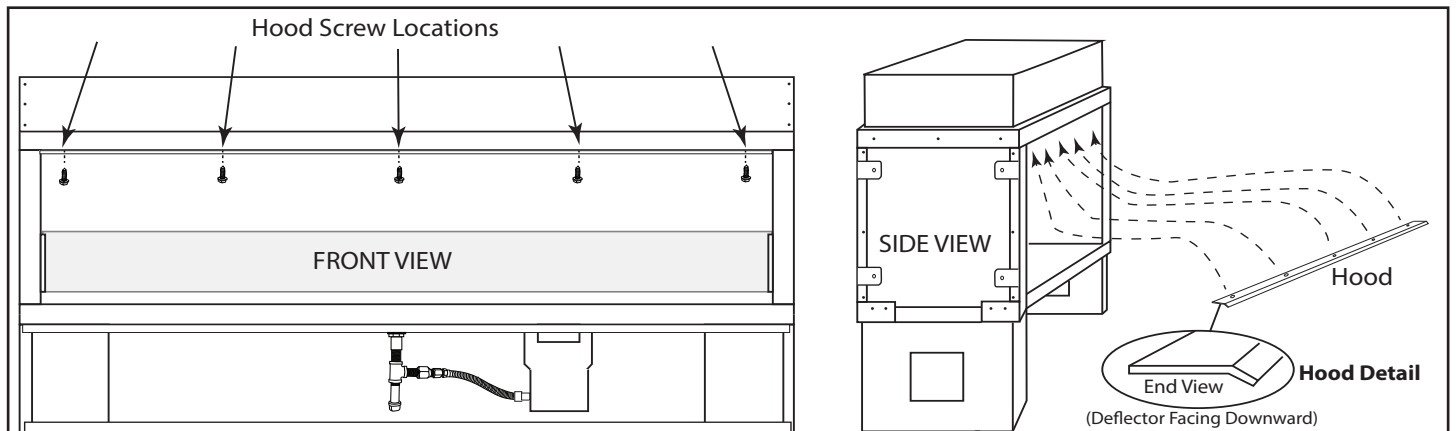

Fig. 11 Installing hood(s) on the fireplace.
Step 10: INSTALLING HOOD: The fireplace requires a hood to be installed into each side of the firebox. One hood would have come with the single sided fireplace, the other hood is supplied with this kit. All models require five (5) screws (#77129) to secure the hood to the fireplace except the 72-inch model, which uses seven (7) screws to secure the hood. The hood protrudes outward 1-inch from the top opening of the fireplace. Fig. 11 shows hole location and installation process for hood installation. The protruding area of the hood angles downward to deflect heat, see Hood Detail below.